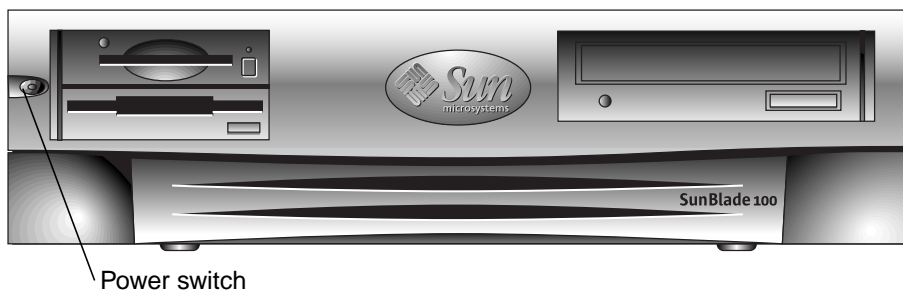

FIGURE 9-2 System Power Switch
3. **Press the front panel power switch (FIGURE 9-2).**